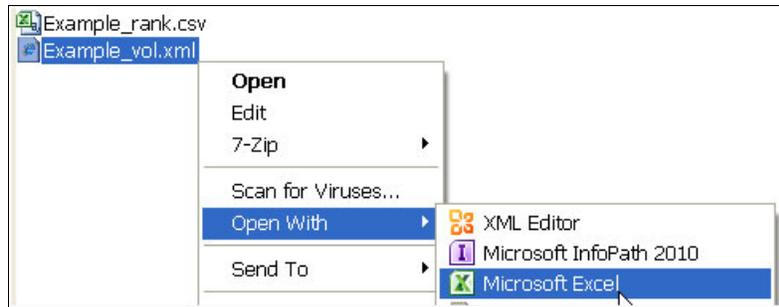

Figure 3 Windows Explorer file list open
1. You simply open the file with Excel and accept the defaults for the import options. Figure 3 shows the file named Example\_vol.xml in Windows Explorer.